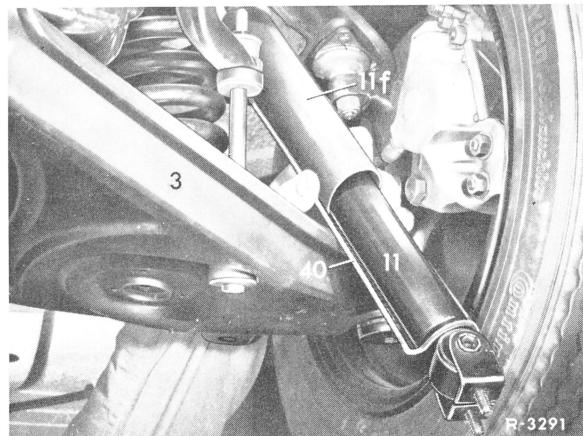

Fig. 5
3 Press in the shock absorber piston rod, attach bracket (40) and remove shock absorber (Fig. 5).
7 Insert shock absorber into lower control arm, remove bracket and introduce shock absorber into dome on frame floor (Fig. 5).